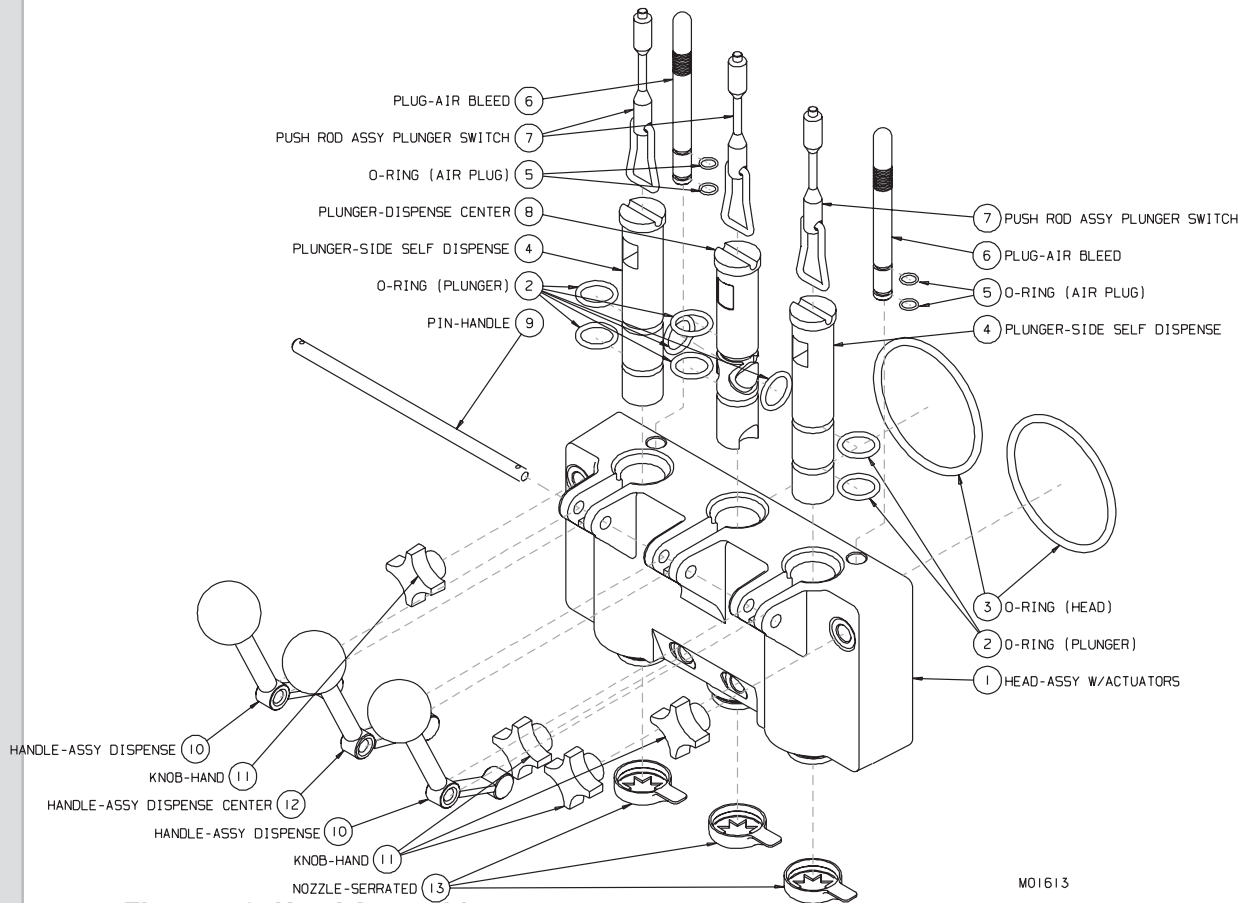

Figure 7-2 Head Assembly
2. Remove the plunger rods (7, figure 7-2) by lifting up and swinging the bottom out and down. Remove hand knobs (11) and pull the dispensing head (1) straight out.
6. Remove the air bleed plug (6) and remove the two O-rings (5).